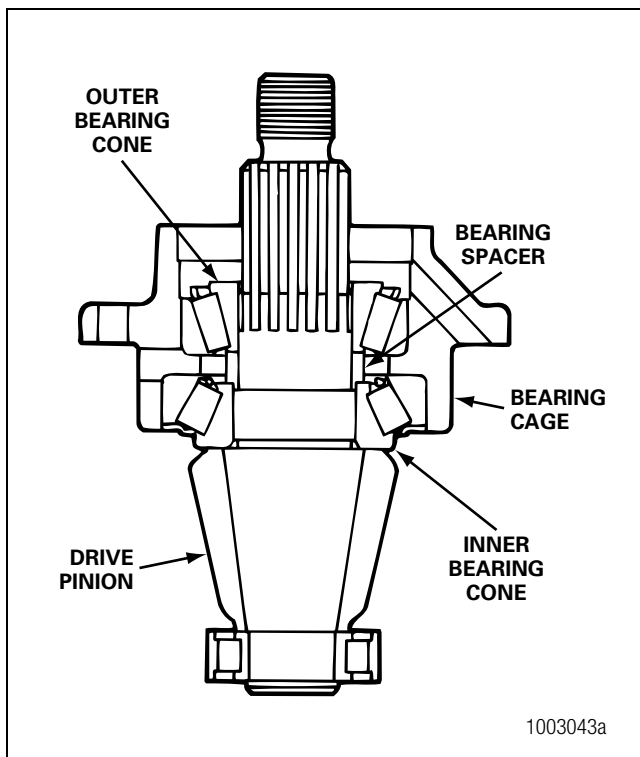

Figure 5.12
3. Install the bearing spacer or spacers onto the pinion shaft against the inner bearing cone. Figure 5.12. The spacer or spacers control the preload adjustment of the drive pinion bearings.
4. Install the outer bearing cone onto the pinion shaft against the spacer. Do not install the pinion seal into the bearing cage. Figure 5.12.